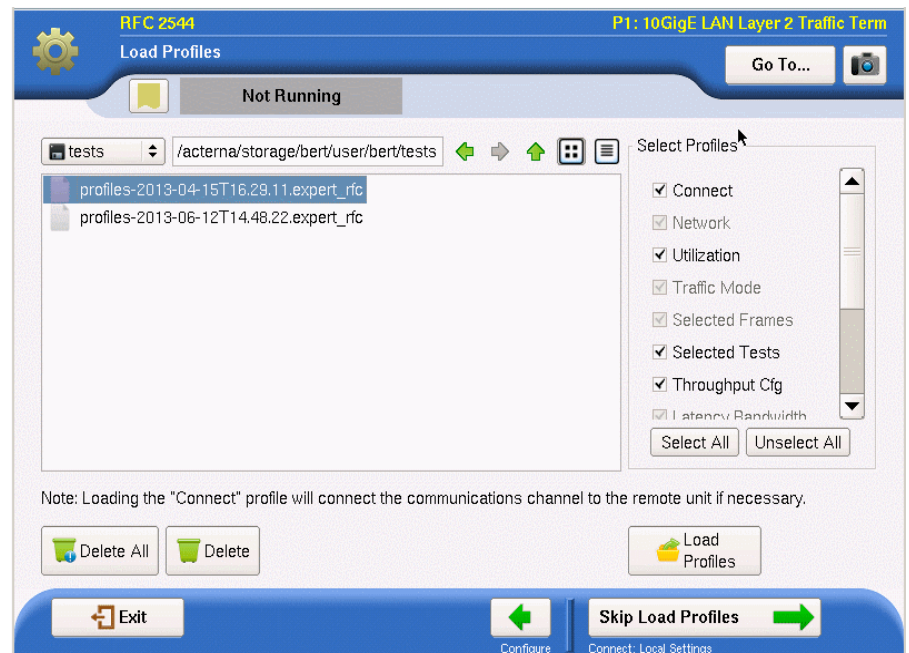

Figure 66 RFC 2544 Load Profiles screen
- 1 To select a configuration currently saved on the unit, select the **Go** button (right green arrow) after "Load Configuration from Profile". The interface shown in Figure 66 will appear..